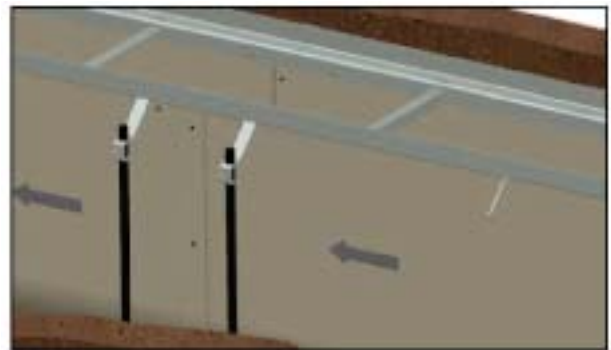

Figure 7.6
- For added stability the joints should be secured with 4 drywall screws per joint in the sidewalls. See Fig. 7.6
- Position the next channel by sliding the male end into the coupler of the installed channel. Frame tabs will assure lateral alignment. See Fig. 7.6